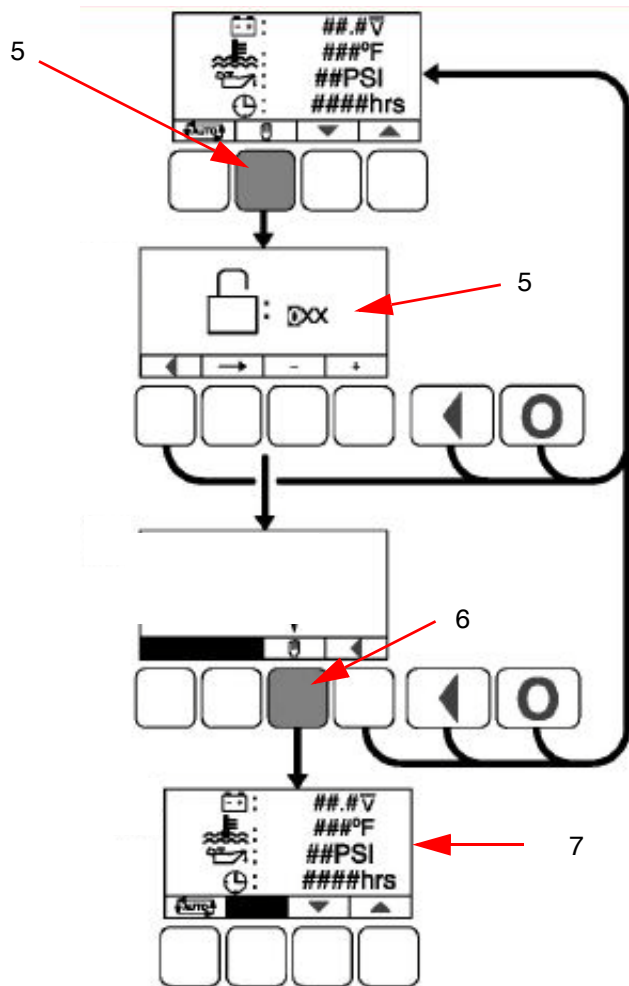

Figure 4-5 Manual run
5. As shown in Figure 4-5, when the graphical LCD panel initializing is completed, press the **Manual Run Button** (the button underneath the hand symbol).
NOTE: If the Mode Change Access Code is enabled (shown in Figure 4-5), a prompt for the **Mode Change Access Code** will be displayed and the operator will have to enter the **Mode Change Access Code**. Refer to the PC1302 Owner Manual (900-0661).
6. As shown in Figure 4-5, a menu with two down-facing arrows will be displayed above a second **Manual Run** symbol. Press the second **Manual Run Button** (the button underneath the hand symbol) and the GenSet will now begin the manual start sequence.
7. As shown in Figure 4-5, the Operator menu (that was displayed before **Manual Run** mode was selected) will be re-displayed, but with the symbol blacked out.